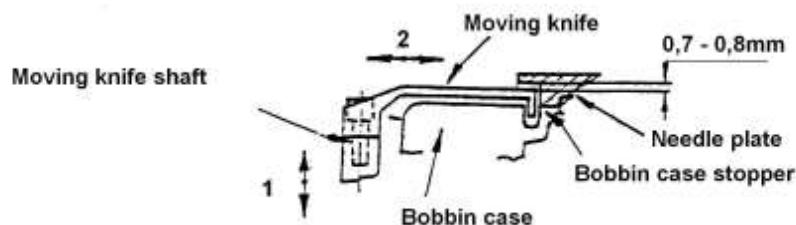

Fig.12
**14 To adjust the moving knife** (Fig. 12) (table J,I1-Parts Book)